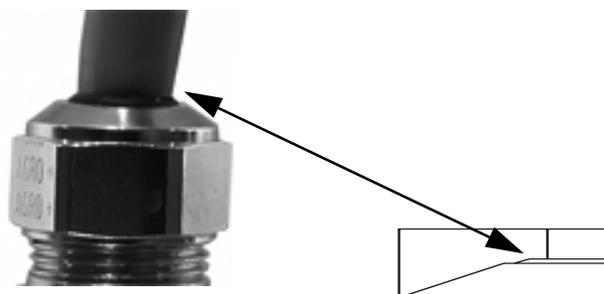

Figure 2-3. Proper Cord Grip Compression
- Lower the domed cap onto the cord grip stem and tighten until a small swelling of the rubber of the reducing gland appears between the domed cap and cable (see Figure 2-3).
9. Lower the domed cap onto the cord grip stem and tighten until a small swelling of the rubber of the reducing gland appears between the dome cap and the cable (see Figure 2-3).
6. Lower the domed cap onto the cord grip stem and tighten until a small swelling of the rubber of the reducing gland appears between the domed cap and the cable (see Figure 2-3).
7. Tighten until a small swelling of the rubber between the domed cap and the cable builds (see Figure 2-3).